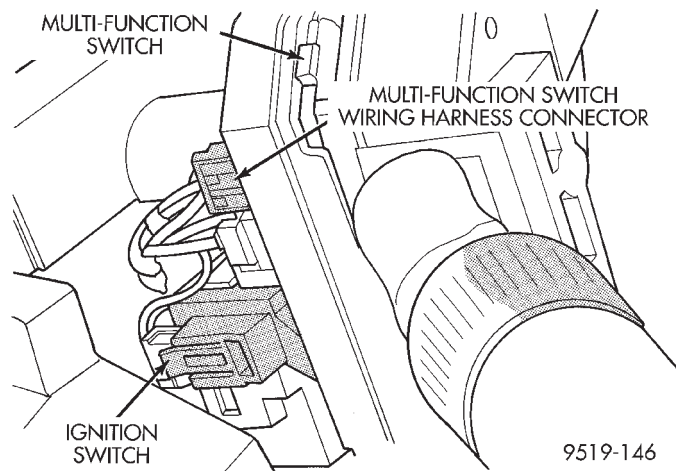
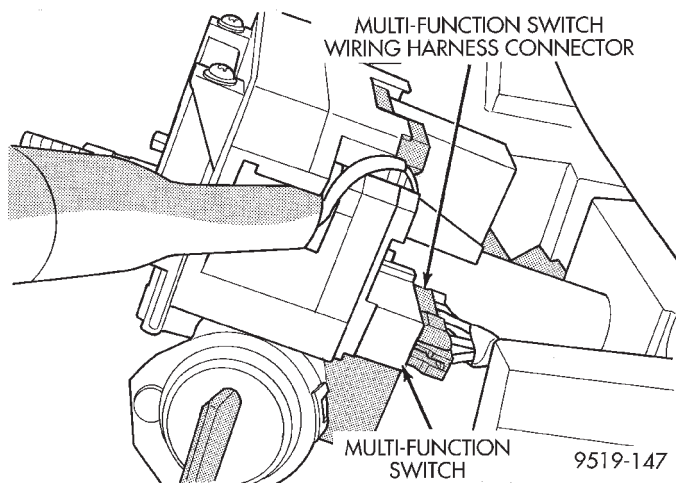
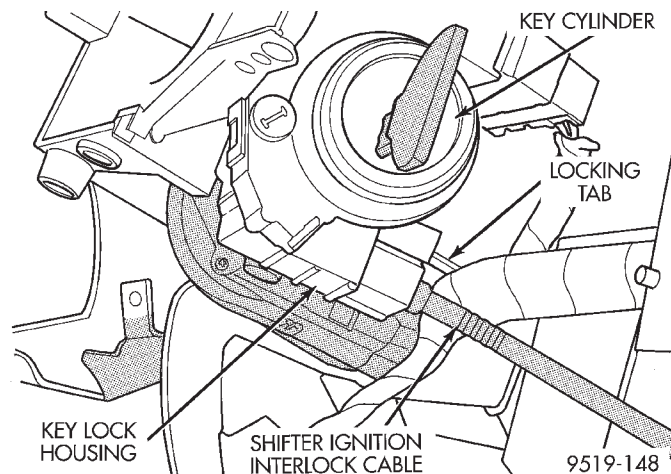

Fig. 13 Wiring Harness Connections To Ignition And Multi-Function Switch
Fig. 14 Wiring Harness Connection To Multi-Function Switch
Fig. 15 Shifter/Ignition Cable At Lock Cylinder Housing
(19) Remove the multi and 2 wire wiring harness connectors from the back of the ignition switch (Fig. 13). Then remove the 2 wiring harness connector from the multi function switch (Fig. 13) and (Fig. 14).
(20) If vehicle is equipped with an automatic transaxle, rotate the key cylinder to the off position. Depress locking tab on shifter/ignition interlock cable (Fig. 15) and remove the cable from the key lock housing.
(5) If vehicle is equipped with an automatic transaxle, install the shifter/ignition interlock cable (Fig. 15) in the lock cylinder housing.
(6) Route wiring harness on steering column and install routing clip in bottom of steering column jacket.
(7) Install multi and 2 wire wiring harness connectors on the back of the ignition switch (Fig. 13). Then install the 2 wiring harness connectors on the multi function switch (Fig. 13) and (Fig. 14).